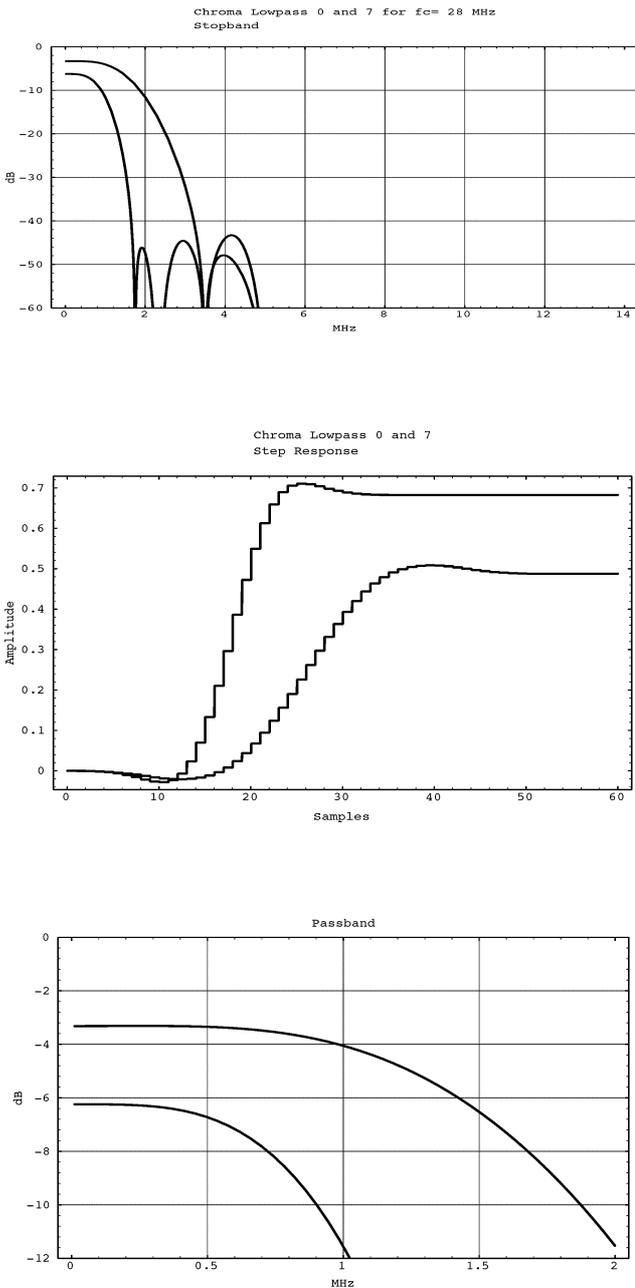

Fig. 2-3: Frequency Response and Step Response of Color component Lowpass Filters
For modulation with the color subcarrier, the U and V signals have to be bandlimited to approximately 1 MHz. The lowpass filter for the U and V components provides adjustable bandwidth and peaking settings. Frequency responses and step responses of the filters are shown in Fig. 2-3. The description of the complete transfer function can be found in the item 4.1.4 'Programming'. The first part of the filter runs at the main clock frequency. After downsampling by a factor of two, both channels are multiplexed and share the same filter. After demultiplexing (after filter and gain adjustment) the sampling frequency of the U and V signals is half the main clock frequency.